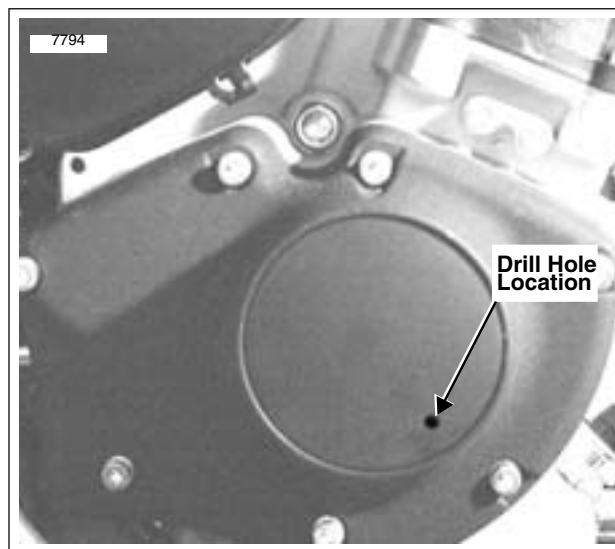

Figure 7-18. Drilling/Removing Timer Cover
See Figure 7-18. The rotor cup is located in the gearcase cover on the right side of the vehicle behind the integrated ignition module. The rotor is mounted on the camshaft and operates at one-half crankshaft speed. See IGNITION TIMING for information on the function, testing and adjustment of the integrated ignition module and trigger rotor assembly.
7. See Figure 7-18. Drill hole in outer timer cover at 5:00 position approximately 1/2 inch (13 mm) in from outside edge. Pull out outer timer cover using 90 degree pick or other suitable tool.
7. See Figure 7-18. Drill hole in location shown and remove outer timer cover, if not removed.
10. See Figure 7-18. Tighten module plate screws to 10-20 in-lbs (1-2 Nm)
2. See Figure 7-18. Drill hole in outer timer cover at 5:00 position approximately 1/2 inch (13 mm) in from edge. Pull out outer timer cover using 90 degree pick or other suitable tool.
See Figure 7-18. The ignition coil is a pulse-type transformer. Internally, the coil consists of primary and secondary windings with a laminated iron core. The contents are sealed in a waterproof insulating compound. The ignition coil is not repairable. Replace the unit if it fails.